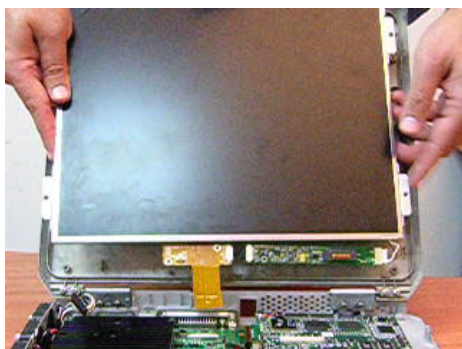

Figure 8-71 Removing the LCD Display
- 7.) Using both hands, carefully lift the LCD Display upwards and remove it from the Rear Cover & Latch Assembly, as shown in Figure 8-71 below.
- 1) Using both hands, carefully lift the replacement LCD Display into position on the Rear Cover & Latch Assembly (refer to Figure 8-71).